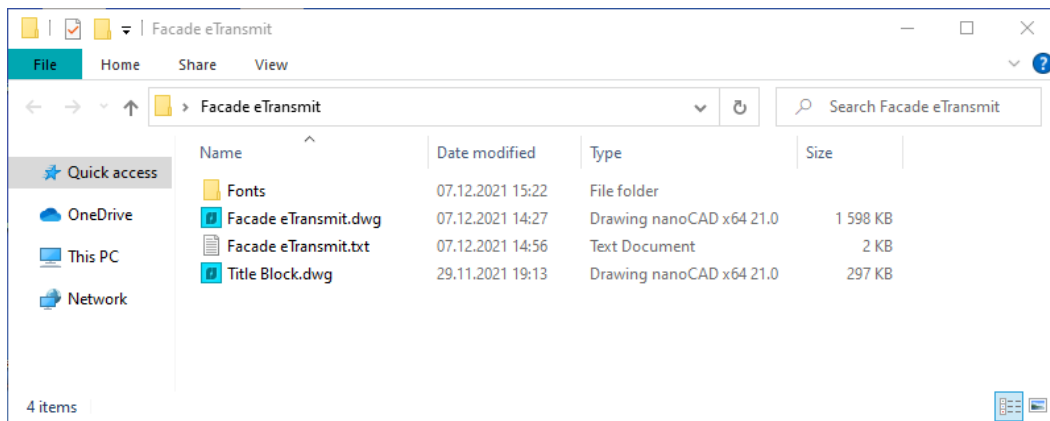

Fig. 47. Unzipped archive
5.4. Unzip the transmittal archive and open the drawing file (fig. 47 – 48):